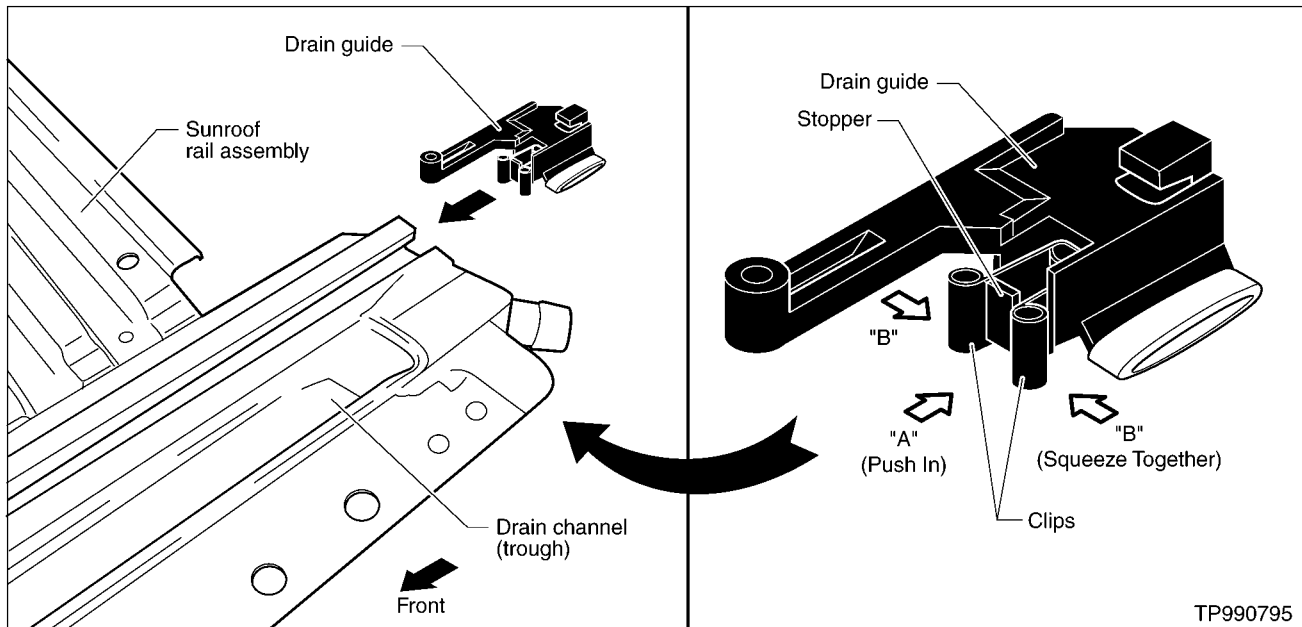

Figure 19
- A. Push the stopper in the "A" direction while squeezing the clips in the "B" direction (see Figure 19).
- B. Insert the drain guide into the end of the sunroof rail assembly (see Figure 19) and slide it forward until it snaps into the cut-out in the rail.
21. Wipe any debris out of the drain channels (troughs). See Figure 19 above.